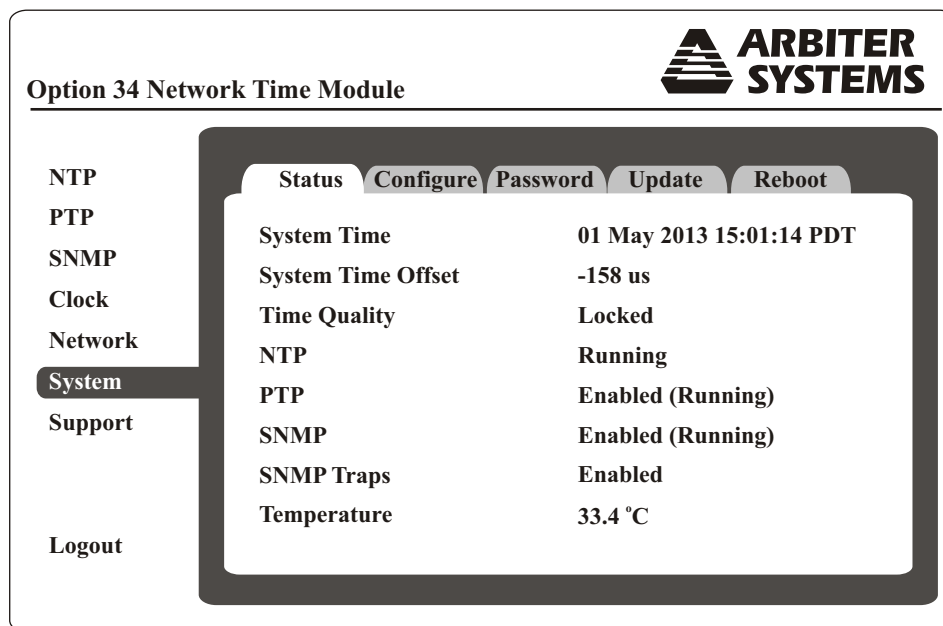

Figure C.13: Startup Page
5. Click the Login button. If you typed in the correct Username and Password, the web interface should appear as shown in Figure C.13.
When logging in to the Option 34 using the web interface, the opening screen should be the System Status information page. This provides an overview of the operation of the Option 34, NTP/PTP servers. Figure C.13 illustrates the opening System Status page.